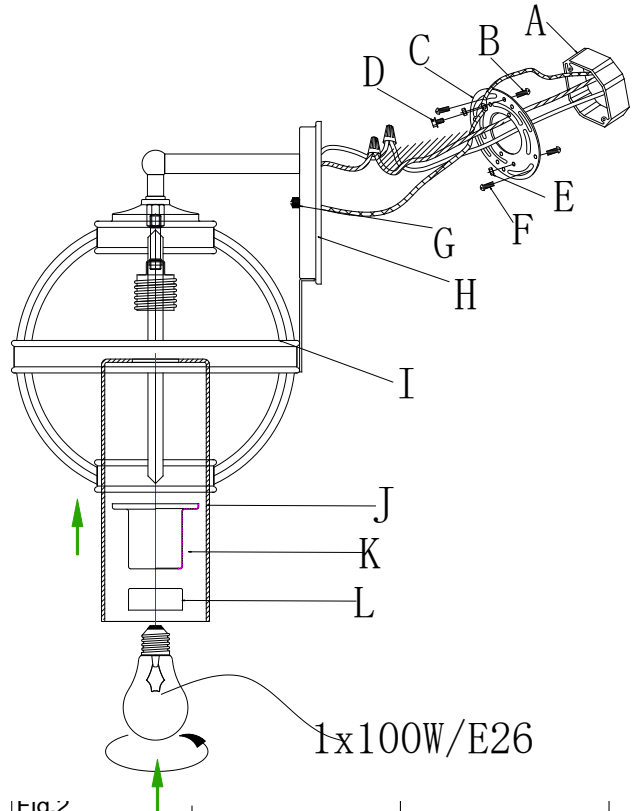

Fig.2
CONNECTING THE WIRES (Fig. 2)
5. Connect the electrical wires as shown in Fig 2, make sure that all wire connectors are secured. If your outlet box has a ground wire (green or bare copper), connect the fixture's ground wire to it. Otherwise, connect the fixture's ground wire directly to the mounting plate (C) using the green screw (D) provided. After the wires are connected, carefully tuck them inside the outlet box.